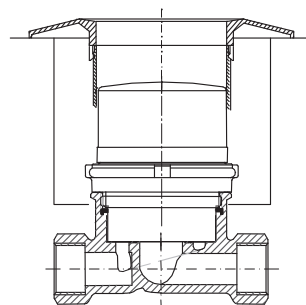

Fig. 3
- 1.15. Push the rosette onto the register cap until the end stop (see Fig. 3). For wet room installations with an extension connection, a rosette disk can also be inserted and this must be ordered separately.